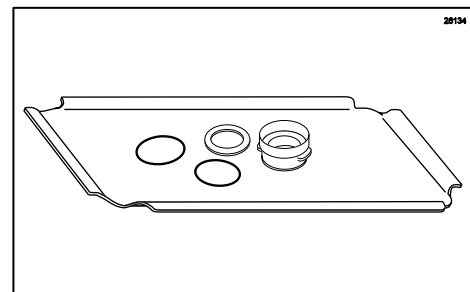

Figure 87
6. Remove each part from the sanitizer solution and place them on a sanitary tray to air dry. (See Figure 87.)